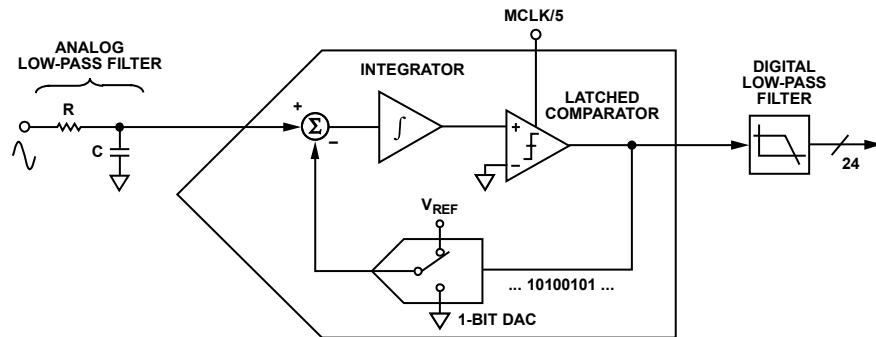
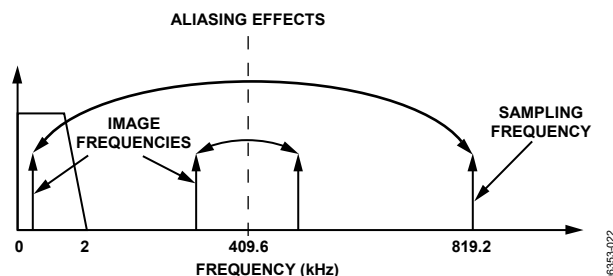

Figure 43. First-Order Σ - Δ ADC
Figure 44. ADC and Signal Processing in Current Channel Outline Dimensions
For simplicity, the block diagram in Figure 43 shows a first-order Σ - Δ ADC. The converter is made up of the Σ - Δ modulator and the digital low-pass filter.
Figure 43 also shows an analog low-pass filter (RC) on the input to the modulator. This filter is present to prevent aliasing, an artifact of all sampled systems. Aliasing means that frequency components in the input signal to the ADC, which are higher than half the sampling rate of the ADC, appear in the sampled signal at a frequency below half the sampling rate. Figure 44 illustrates the effect. Frequency components (the black arrows) above half the sampling frequency (also known as the Nyquist frequency, that is, 409.6 kHz) are imaged or folded back down below 409.6 kHz. This happens with all ADCs regardless of the architecture. In the example shown, only frequencies near the sampling frequency (819.2 kHz) move into the band of interest for metering (40 Hz to 2 kHz). This allows the use of a very simple LPF (low-pass filter) to attenuate high frequency (near 819.2 kHz) noise and prevents distortion in the band of interest.
For conventional current sensors, a simple RC filter (single-pole LPF) with a corner frequency of 10 kHz produces an attenuation of approximately 40 dB at 819.2 kHz (see Figure 44). The 20 dB per decade attenuation is usually sufficient to eliminate the effects of aliasing for conventional current sensors. However, for a di/dt sensor such as a Rogowski coil, the sensor has a 20 dB per decade gain. This neutralizes the -20 dB per decade attenuation produced by one simple LPF. Therefore, when using a di/dt sensor, care should be taken to offset the 20 dB per decade gain. One simple approach is to cascade two RC filters to produce the -40 dB per decade attenuation needed.